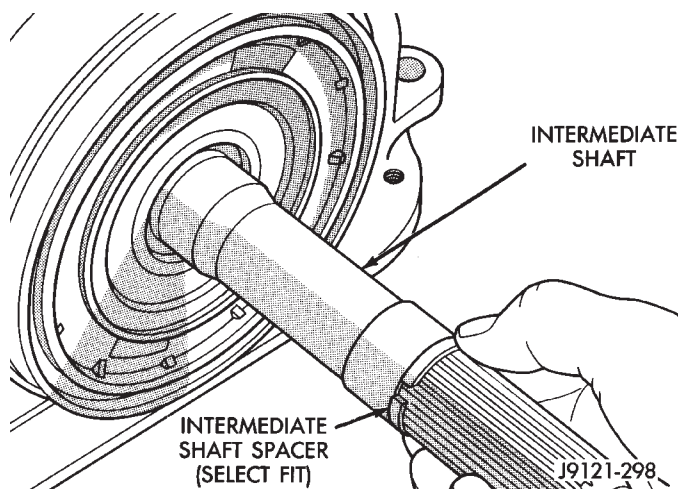

Fig. 249 Intermediate Shaft Spacer Location
(2) Remove intermediate shaft spacer (Fig. 249). Retain spacer. It is a select fit part and may possibly be reused.